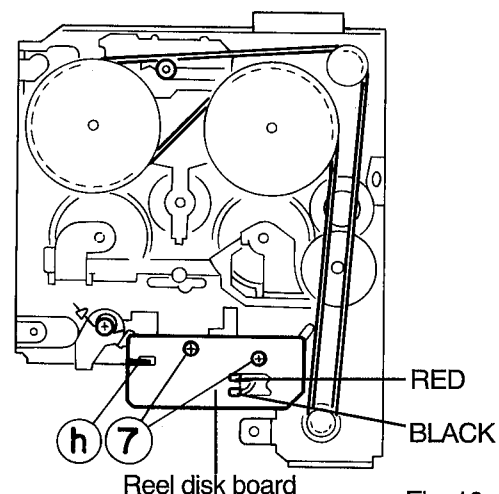

Fig. 10
■ Removing the Reel Disk Board (See Fig. 10)
6. Remove the two screws (7) fixing the reel disk board.